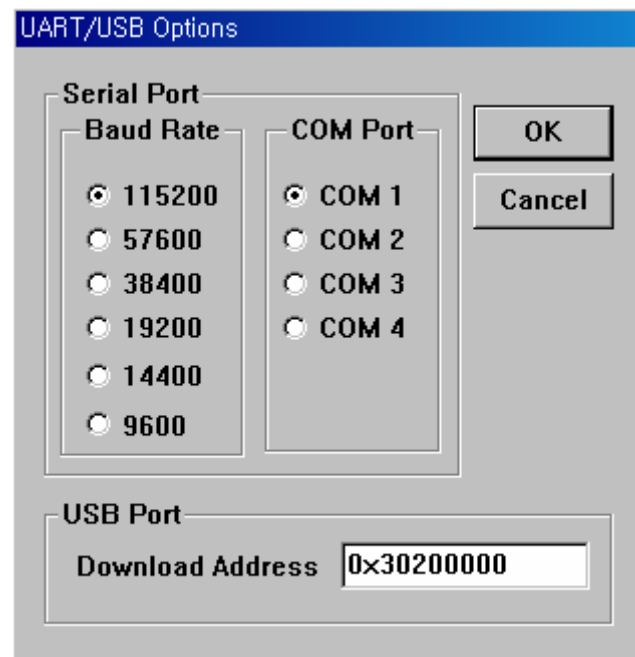

Figure 5-6 UART/USB Options
- On the **Configuration** menu, click **Options** to set the UART/USB options. The following window appears on your screen. Select Baud Rate and COM Port as shown in figure 5-6, enter the download address as 0x30200000 and then click OK button.